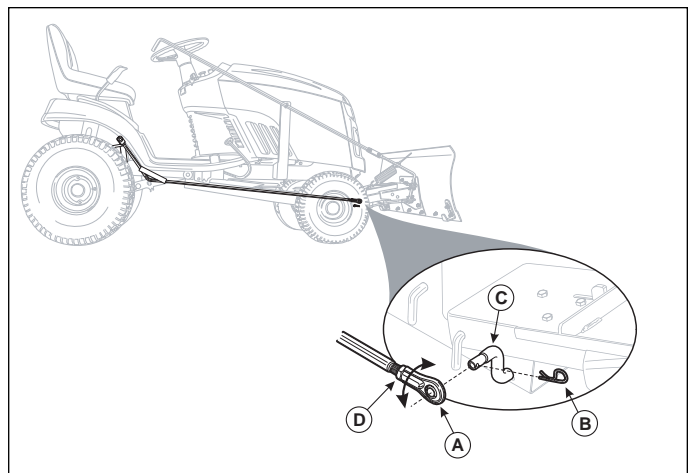

Figure 15. Lower Control Arm Installation
1. Fully raise the snow blade off the ground. If the transport height is not correct, lower the snow blade to the ground and remove the lift arm (A, Figure 15) from the bell crank (C).
2. Loosen the lift arm ball joint lock nut (D) and rotate the ball joint (A) either right or left to adjust the proper lift height.